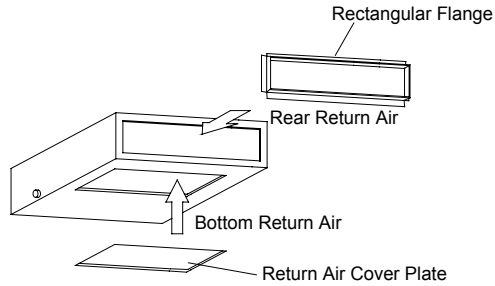

Fig.4.35
(2). The default installation location of the rectangular flange is at the back and the return air cover plate is at the bottom, as shown in Fig.4.35 .